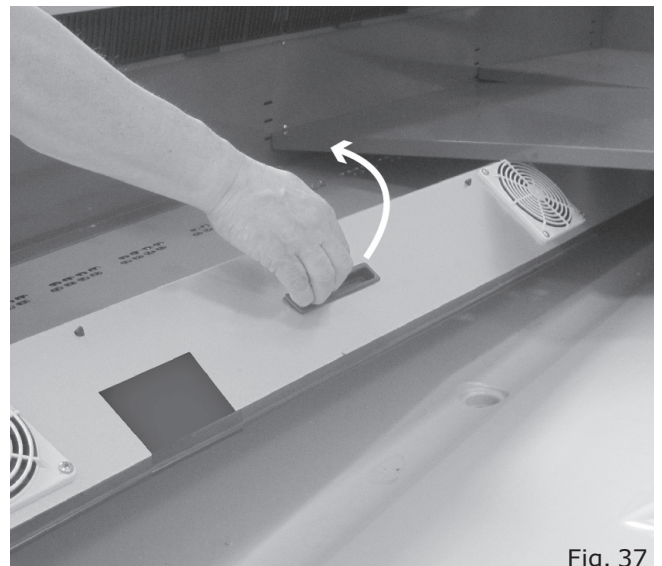

Fig. 37
- A fan holder that can be rotated upwards ("Fig. 37").